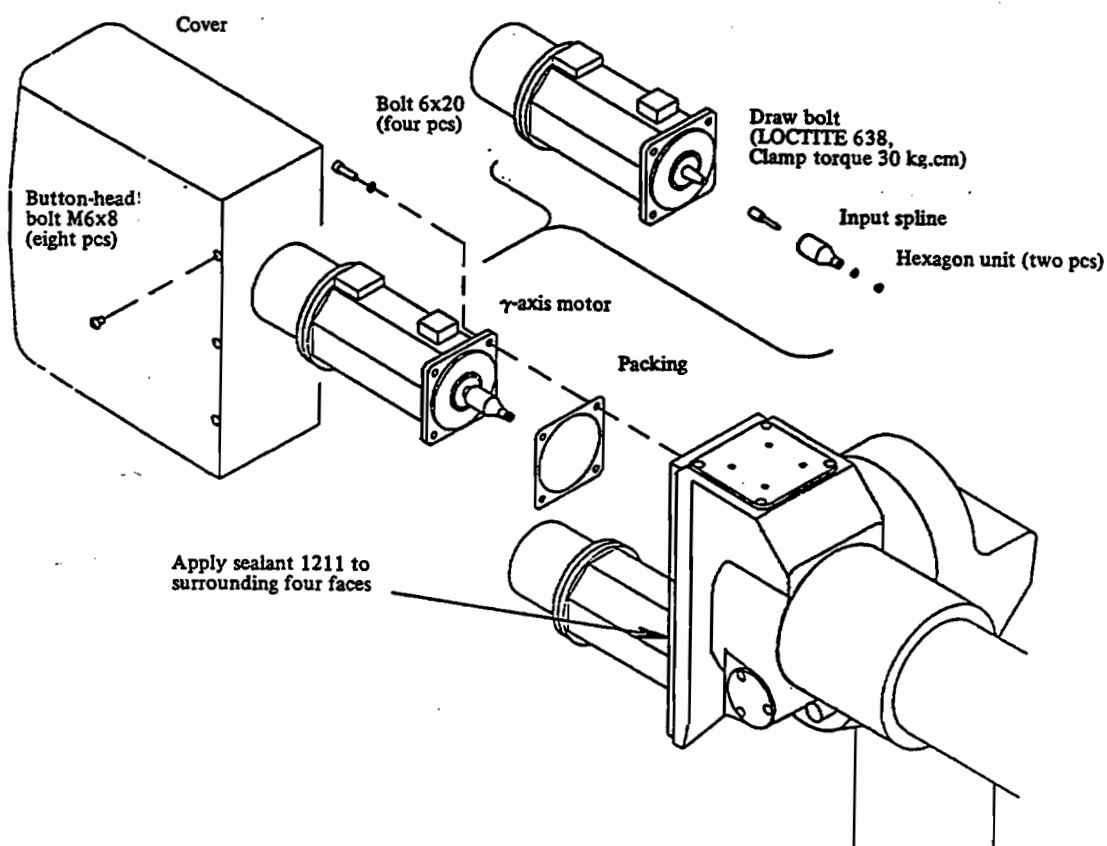

Fig. 5.9 (a) Replacing γ -axis motor (S-10)
- ① Remove the U-axis cover and U-axis motor connector.
- ② Remove the four M6x20 bolts mounting the motor and then the motor.
- ③ Remove the hexagonal nuts and the draw bolts.
- ④ If only the motor is replaced, reassemble reversing above procedure after replacing the motor. Apply LOCTITE lightly to the bolts and nuts removed in steps ② and ③. Apply a thin coat of LOCTITE on the hexagonal nut of the motor shaft and tighten to the specified torque. (See Fig. 5.9 (a).)